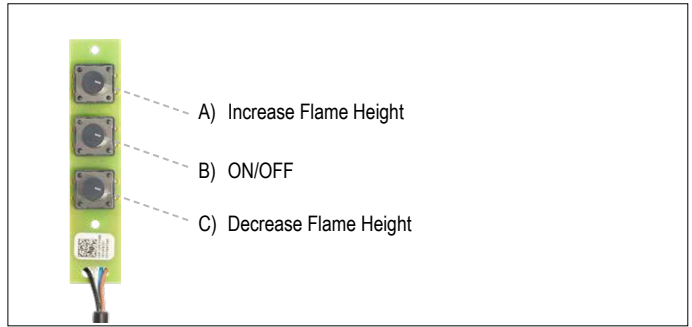

Figure 20: Switch Panel
- Press button "B" button (see figure 20) until a short beep confirms the start sequence has begun; release button.